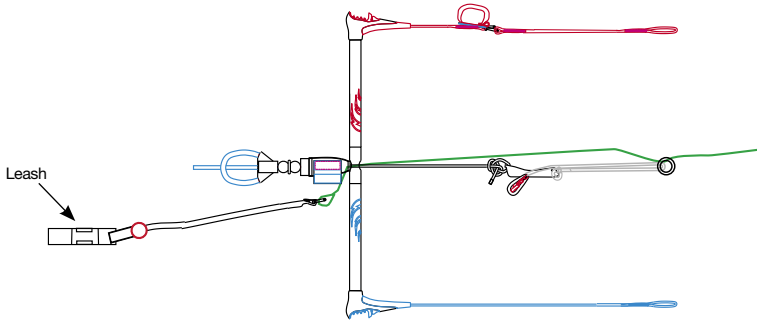

Fig. 7 Thread 5th line through stainless steel ring on the leash and then thread leash through loop on the 5th line
Step 4 Remove leash from side re-ride system and attach to 5th line loop (Figs. 7 - 9)